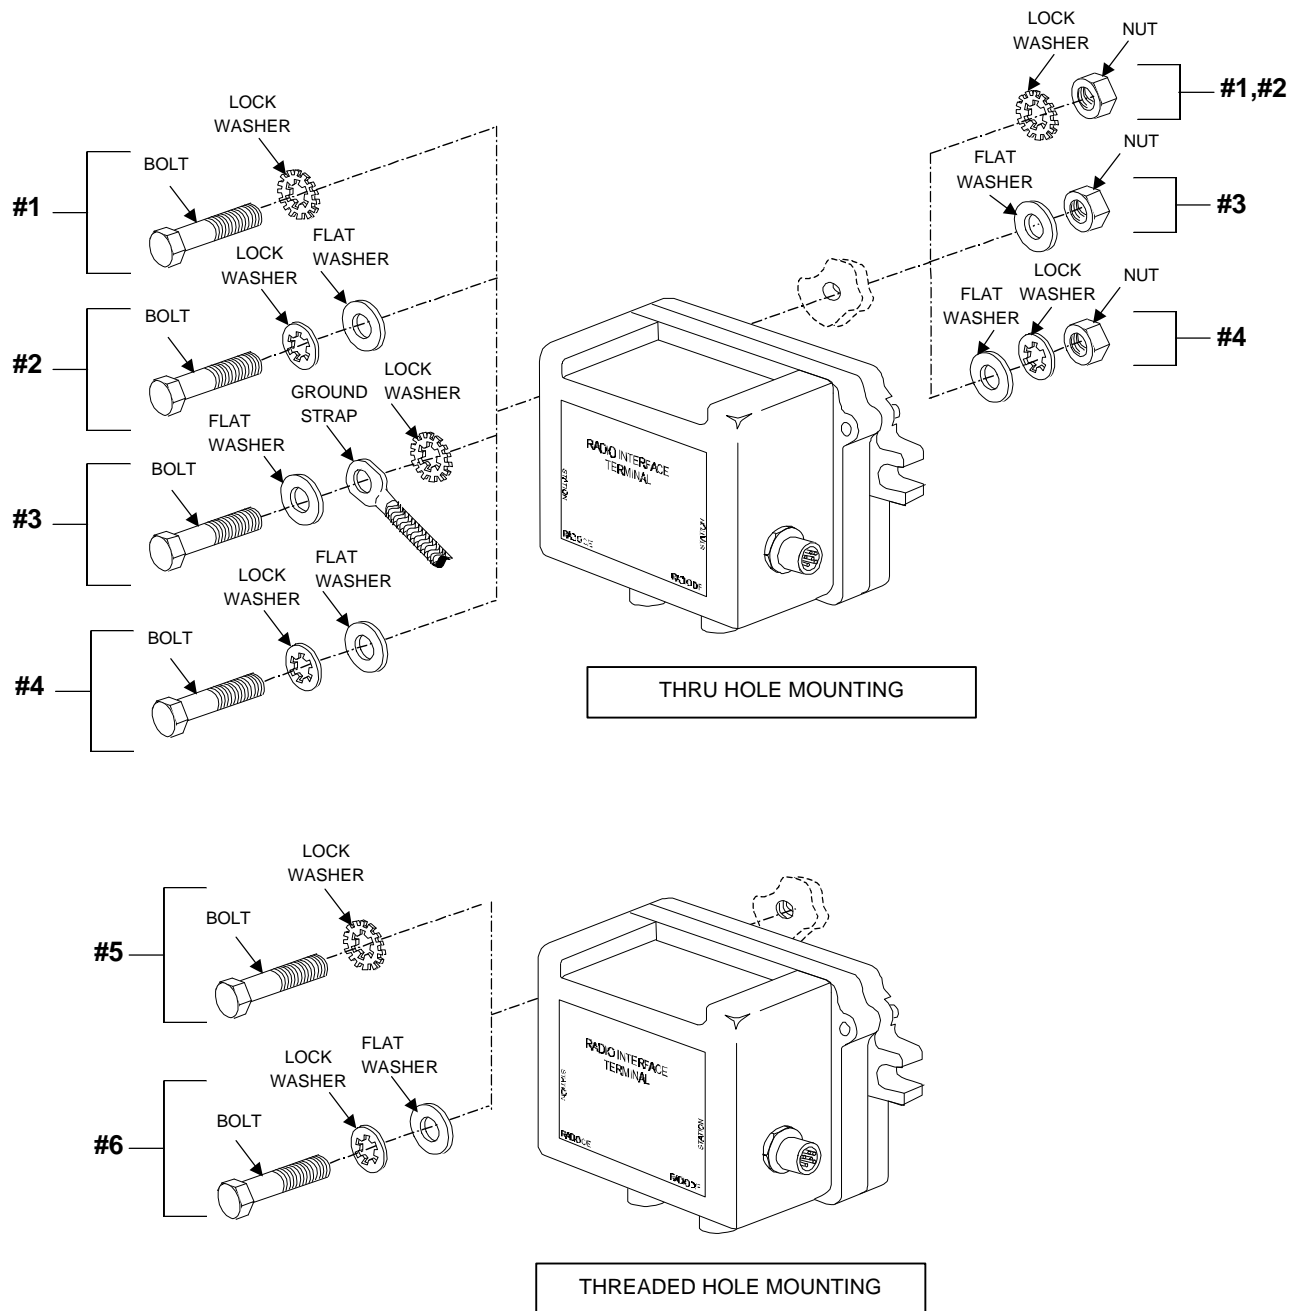

Figure 3-9. RIT Mounting Hardware Sequences
- Table 3-4 RIT Mounting Hardware (Fig. 3-9)
Table 3-4. RIT Mounting Hardware (Figure 3-9)